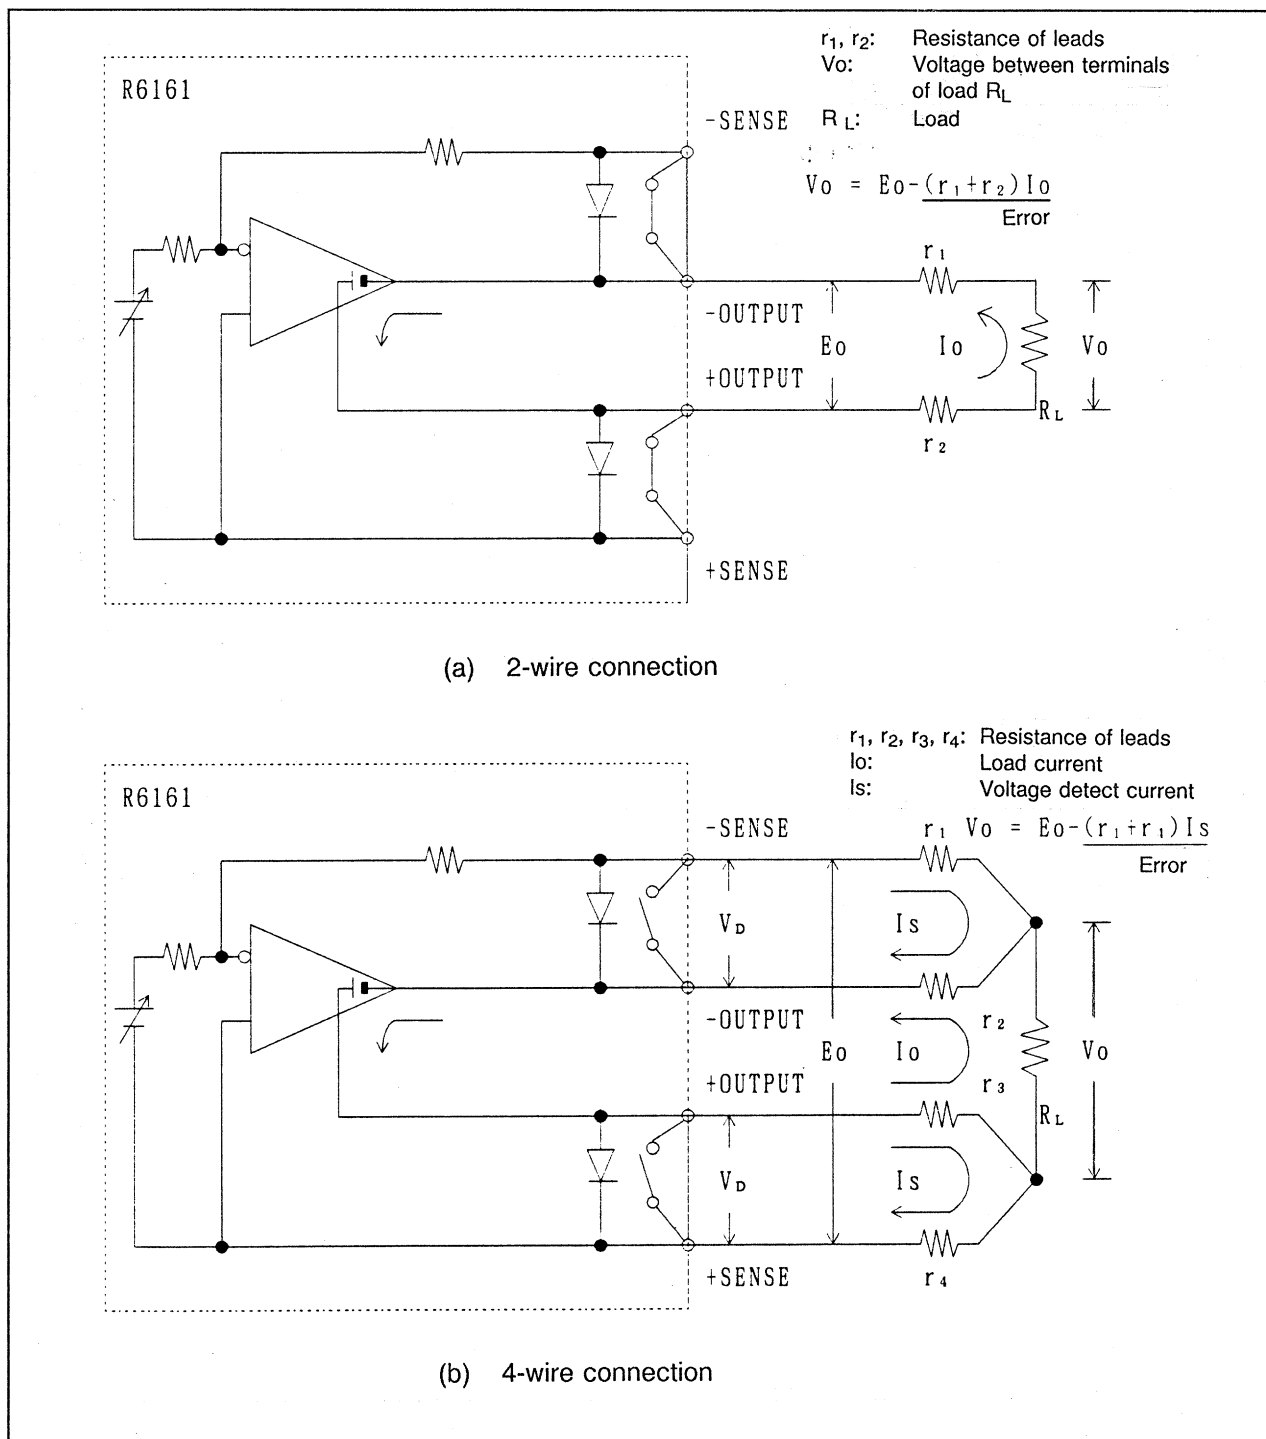

Figure 3-3 Equivalent Circuit
Figure 3-3 shows the equivalent circuit when the 2-wire or 4-wire line (the EXT SENSE lamp is on) is used.
1. " V_D " voltage must be approximately 0.1 V or less to satisfy the requirement of " $V_o = E_o - (r_1 + r_4)I_s$ " of Figure 3-3. (If $V_D = 0.1$ V, an error equal to or less than 0.001% occurs.)